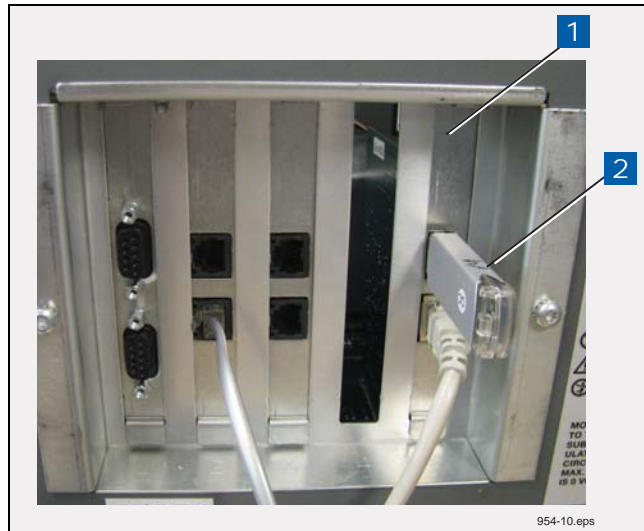

Figure 2. USB/Ethernet board - V-R thumb drive ports
- Figure 2. USB/Ethernet board - V-R thumb drive ports 5
LEGEND FOR NUMBERED BOXES IN Figure 2